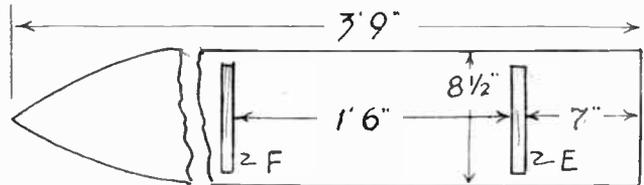

Fig. 2—The ironing board, with position of cross pieces
The ironing board, Fig. 2, is cut to the shape shown from a single board of $\frac{3}{4}$ in. deal. Where shown at (F) screw across a piece of wood, $\frac{3}{4}$ in. thick and $1\frac{1}{2}$ ins. wide, just 7 ins. in length. The bar (E) to which the outer legs are pivoted, is screwed across also, where shown.